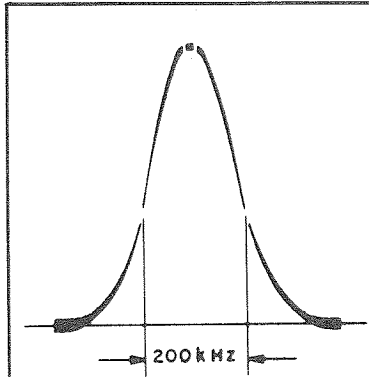

Figure 4.
(3) Connect 10.7 MHz sweep generator to Test Point 501 (pin 5F on FM RF board). Connect ground lead of generator to pin 5G. Adjust generator level and sweep to observe IF response curve.
(4) Adjust top and bottom cores of Z305, Z304, and Z302 (on AM/FM IF, MPX board) for symmetry and maximum gain.
(5) Adjust top and bottom cores of L505 (on FM RF board) for maximum gain and symmetry. Repeat alignment until maximum gain and symmetry are obtained (see Figure 4).